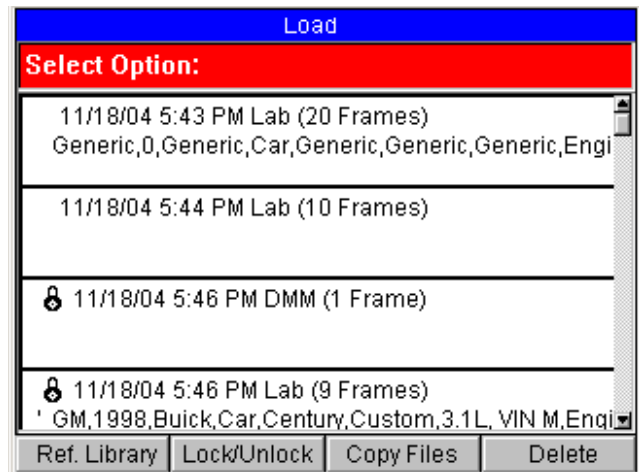

Figure 15.2: Playback Load Screen - Solarity Tool
- 2 From the main menu screen, select **Playback**. This displays the Load screen (Figure 15.2).